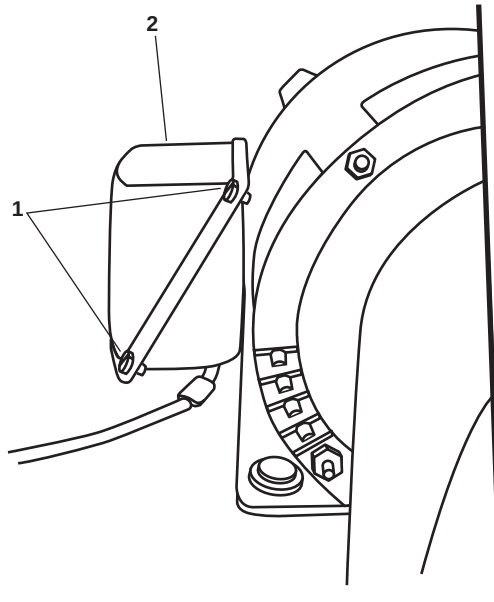

Figure 1. Electrical Junction Box
1. Remove the four screws (figure 1, item 1) holding the electrical junction box cover (top) (figure 1, item 2).
2. Remove the junction box cover (top) (figure 1, item 2).